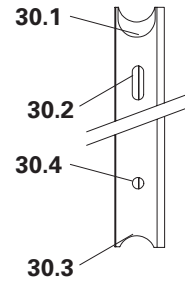

Fig. A5.01a
- Side with semi-circle (30.3) and drilled hole (30.4). (Fig. A5.01a)